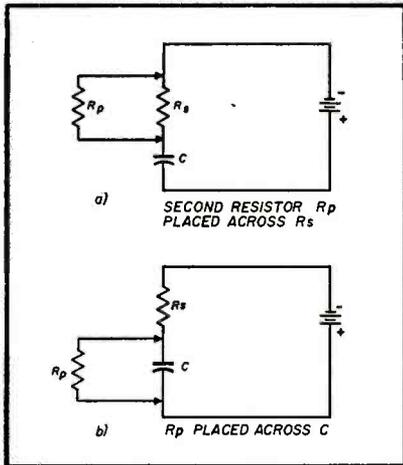

Fig. 17— R_p has same effect on time constant whether put across C or R_s .
1) Any circuit change in an RC circuit which reduces the final voltage to which the condenser charges (while the same battery voltage is used) reduces the time constant, if the initial charging current is not also reduced. Example: Placing R_p across C in Fig. 17 reduces the voltage to which C would charge, as compared to a simple series circuit, without reducing the initial charging current. Adding a resistor across the condenser therefore reduces the time constant of the circuit.